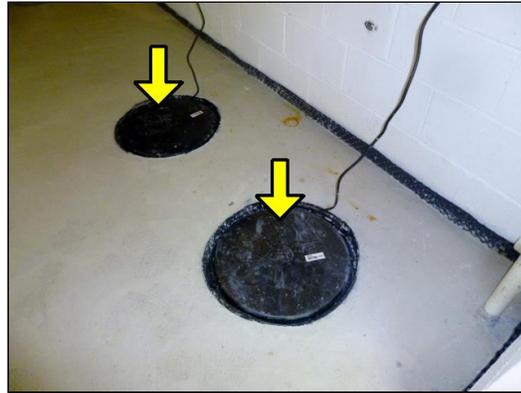

fig. 18
Basement is constructed with concrete block foundation walls and standard wood framing components (fig. 17a). High moisture readings of up to 39.5% were present at perimeter wall locations tested. Visible evidence of regular moisture/ water penetration was observed. Absence of adequate water proofing on exterior foundation walls, local ground soil conditions, and a high water table are considered a contributing factors. Perimeter drainage system is serviced by northeast basement sump-pumps (2) (fig. 18). Future installation of battery back-up systems for sump-pumps is recommended. Routine maintenance of exterior roof gutter drainage systems and installation of a dehumidifier/air exchanger will reduce basement moisture levels. Visible construction and wood framing components appear in good condition. Perimeter crib walls have been constructed to reinforce original foundation walls, concrete floor was raised to accommodate drainage system. Absence of cross bridging between floor joist was observed, future blocking by a licensed specialist is recommended for improved structural support. No visible evidence of active wood destroying insect infestation is present, however, continued preventive maintenance coverage by a licensed pest control specialist is advised.